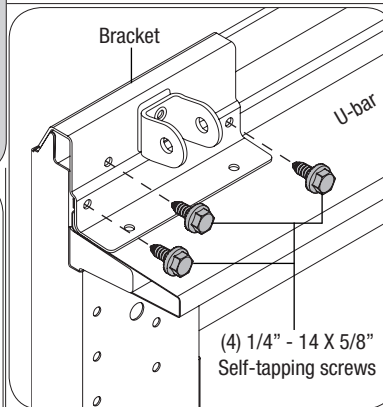

FIG. 1.5
First attach (3) 1/4" - 14 x 5/8" self-tapping screws to the bracket, as shown in FIG. 1.5.